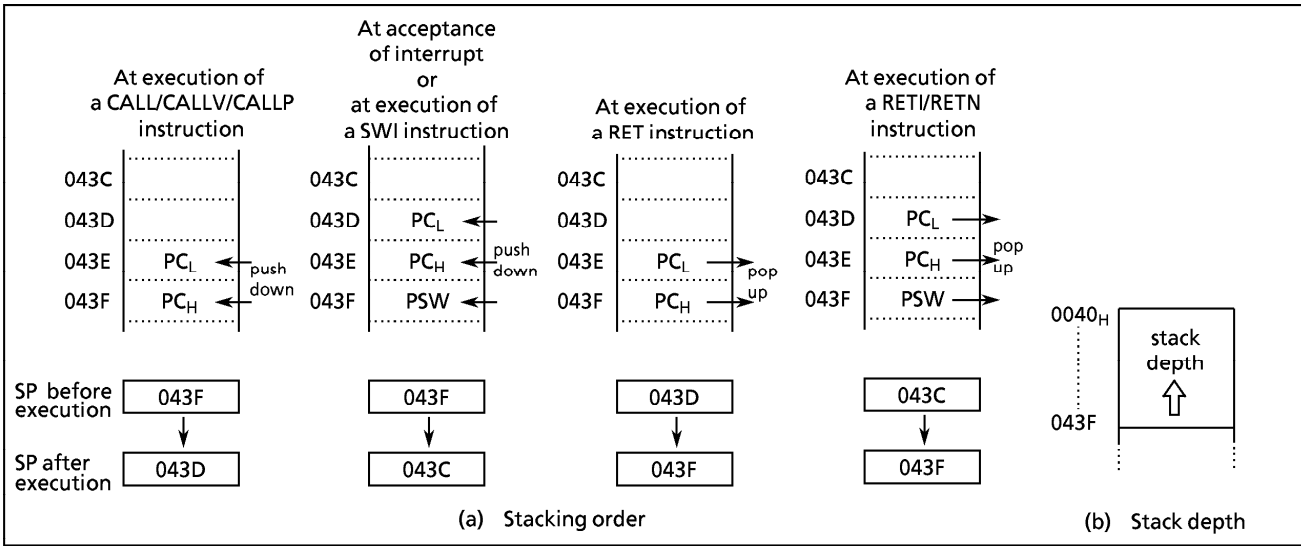

Figure 1-8. Stack
1.7.2 Stack Pointer (SP)
The stack pointer (SP) is a 16-bit register containing the address of the next free locations on the stack. The SP is post-decremented when a subroutine call or a push instruction is executed, or when an interrupt is accepted; and the SP is pre-incremented when a return or a pop instruction is executed. Figure 1-8 shows the stacking order.